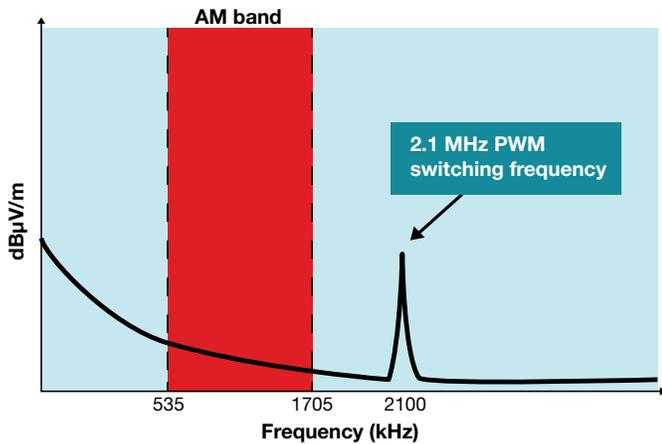

Figure 2. 2.1MHz PWM switching frequency
To alleviate this issue, many newer class-D amplifiers from Texas Instruments (TI) include patented proprietary algorithms that minimize interference with tuned AM radio frequencies or provide the ability to change the switching frequency (via I2C commands) to as high as 2.1MHz (**Figure 2**), thus switching above the AM band. Because these strategies eliminate the tones present from demodulation of the switching frequency by the AM radio, there's no need for complex electromagnetic interference (EMI) avoidance schemes.